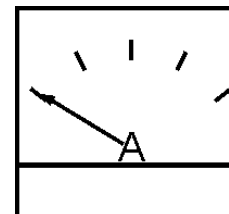

Figure 46. Ammeter (No Load)
13. The ammeter (Figure 46) will indicate zero amps with no load applied. When a load is applied, the ammeter will indicate the amount of current that the load is drawing from the generator.